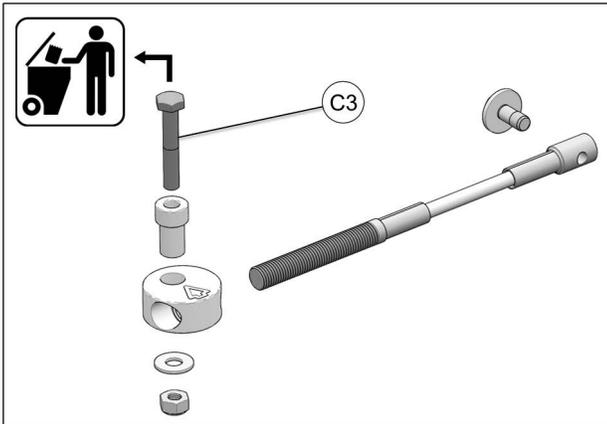

Fig. 24
11. Remove and discard M10 bolt (C3) from steering limiter cable parts kit as shown in Fig. 24